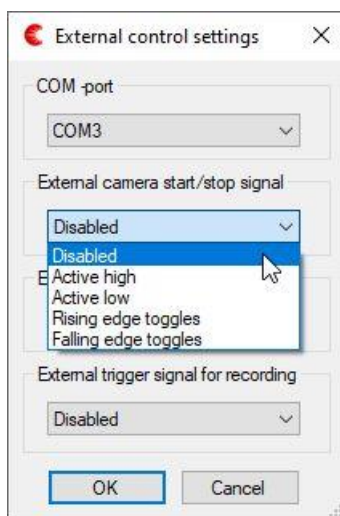

Fig. 5. Alternatives for external image acquisition start/stop.
- External camera start/stop signal (Fig. 5)